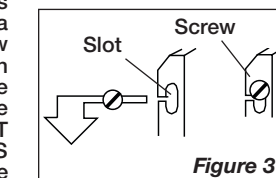

Figure 3
- Mount Fan in window by engaging Slots with installed Wood Screws on inside edge of trim. Lower Fan onto 4 Screws until it rests on window sill or sash moulding. (Figure 3)